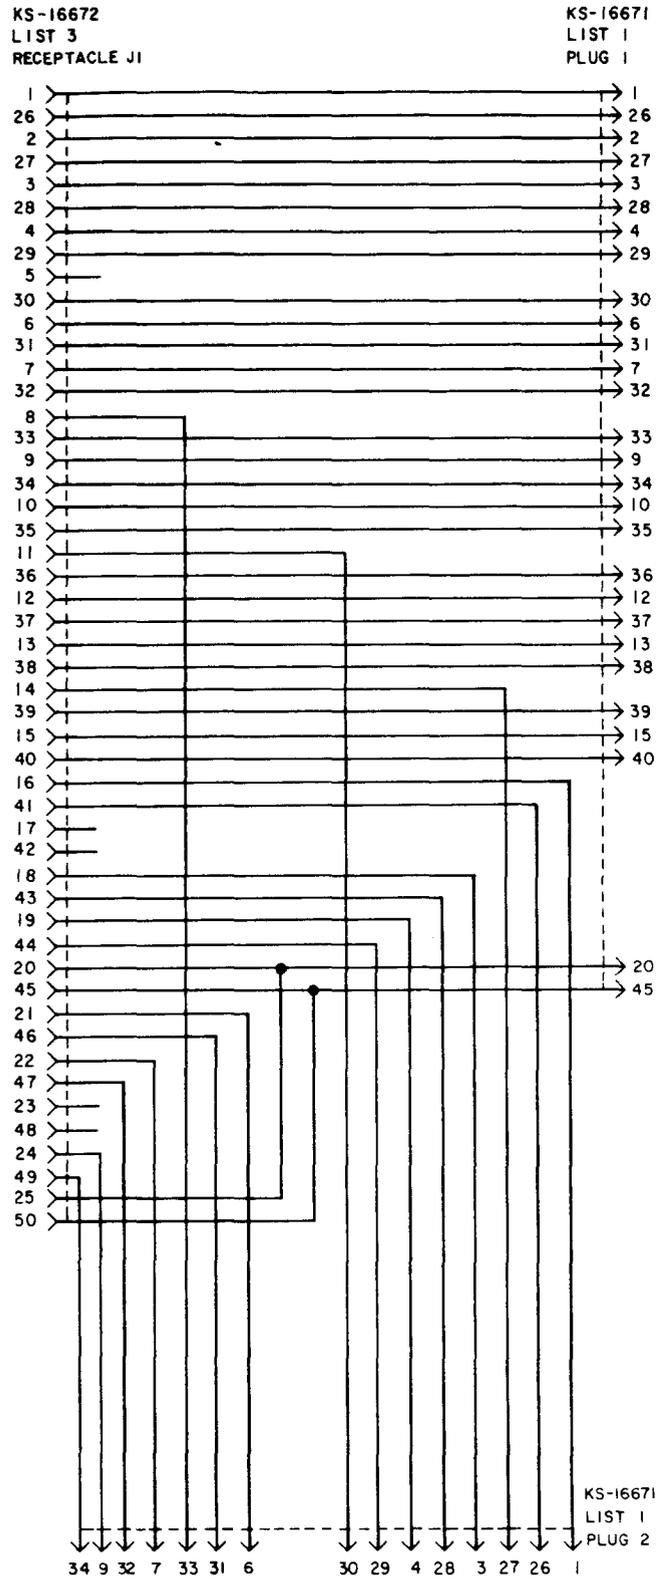

Fig. 22—KS-19252, List 5 3-Way Bridging Adapter, Schematic
3.06 The KS-19252, List 5 adapter (Fig. 22) is used in multiple installations of 2025 data sets to connect 830- or 2830-type telephone sets to 41A data mounting.